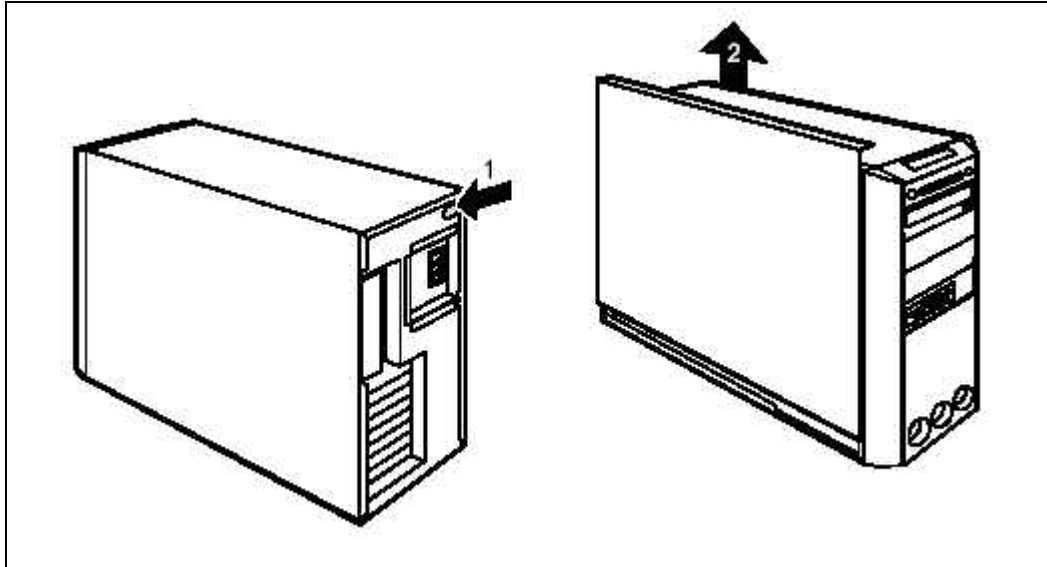

Fig. 37: Remove PC covers
4. Press the green unlocking button on the back of the casing (1/ Fig. 37 / p. 69).
5. Hold the green unlocking button depressed and slide the casing side cover upwards in the direction of the arrow (2/ Fig. 37 / p. 69).